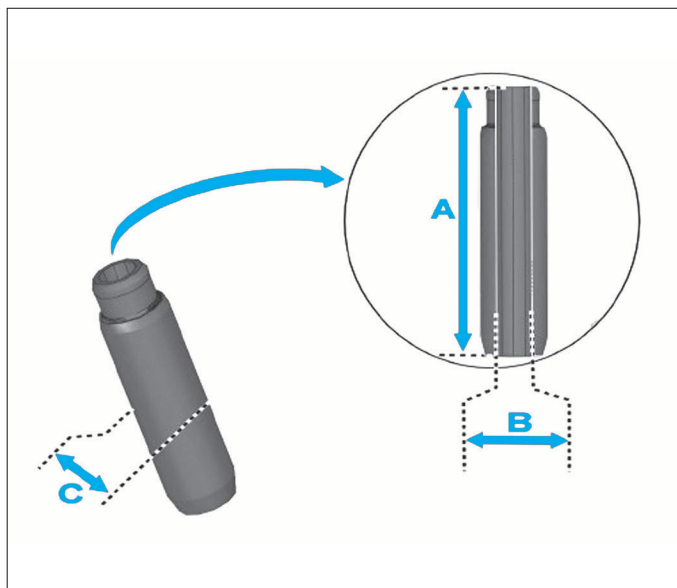

FIG. 5
**GUIDES DE SOUPAPES FIG.5**
**Cote des guides de soupapes (Fig.5)**